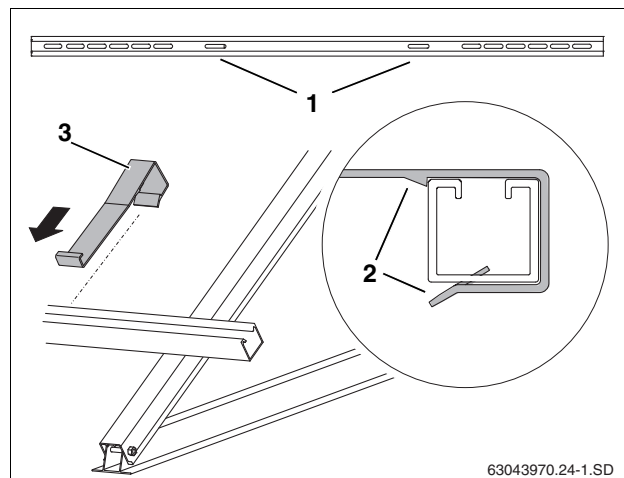

Fig. 36 Attaching collector hanger
- ▶ Push each collector hanger (Fig. 36, [3]) into the innermost slots (Fig. 36, [1]) of the profile rails until it clicks into place (Fig. 36, [2]).